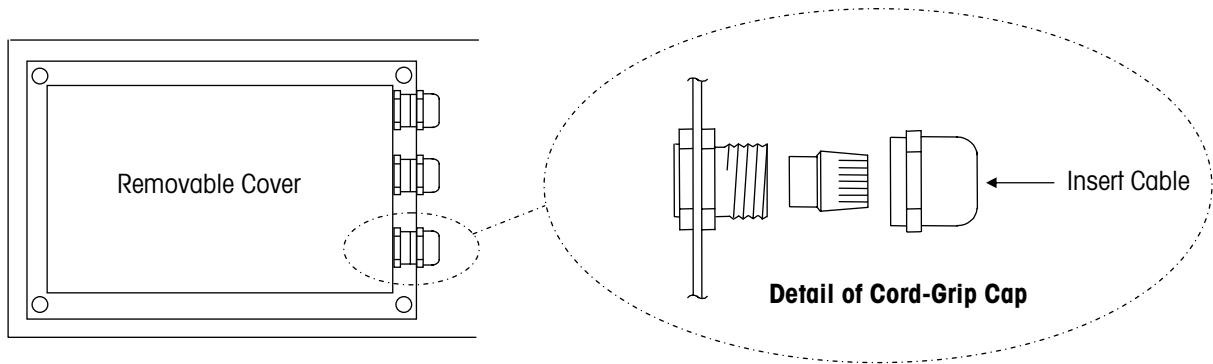

Figure 7-2: Cord Grip Cap
2. Loosen the cord-grip caps enough to slide the cover over the cables and provide access to the internal components (see Figure 7-2). Disconnect the cables if necessary.